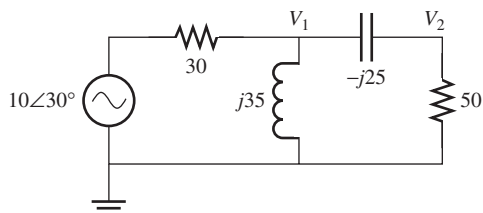

FIGURE P6.34 Circuit for Problem 6.34.
- 6.34 (A) Find V_1 and V_2 in Figure P6.34 using nodal analysis.